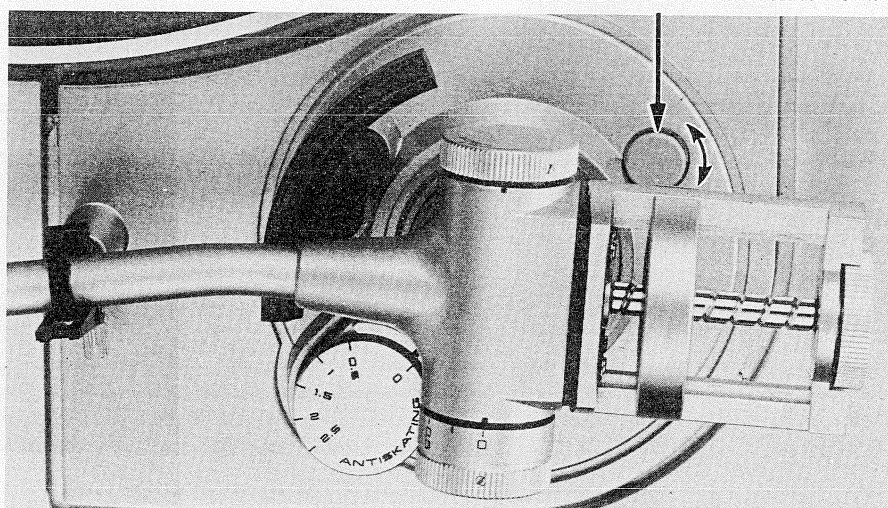

Fig. 32
6. AUTO-RETURN ADJUSTMENT (Refer to Figs. 32 and 33)